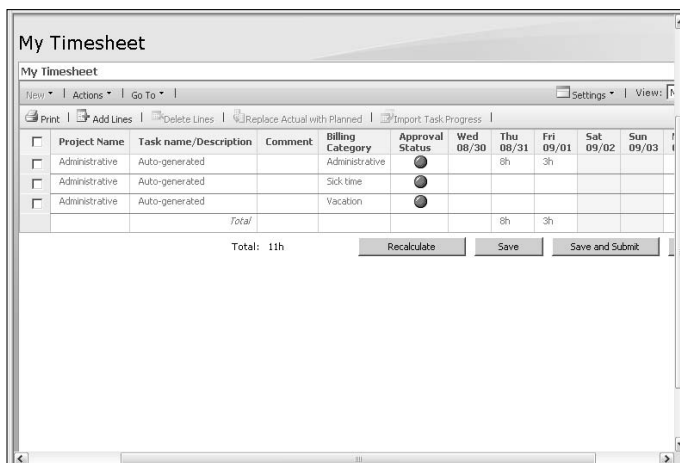

Figure 1-3: Timesheet is an easy-to-use time-reporting feature.
3. Launching the project: With an approved plan in hand, you can officially launch the project. Make sure your entire team has information about individual responsibilities and that you've set up channels of communication either online, using printed reports, or through regular in-person meetings. Also make sure you have set up reporting mechanisms for your team members to report their work hours on tasks and progress. Be sure to instruct your team in how to use those mechanisms, such as the Timesheet feature built into Project Web Access (see Figure 1-3). See Book X, Chapter 4 for more about this.